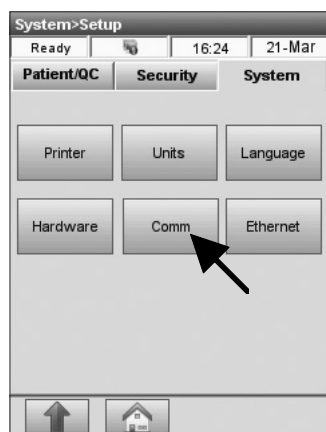

Fig. 3-75 Communications
2. In the **<System Setup>** menu, press the **<System>** tab and then **<Comm>** (Fig. 3-75).